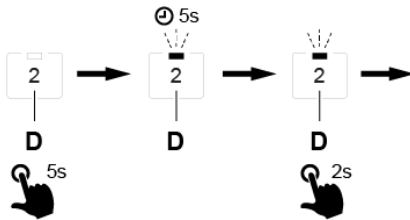

Fig. 12
- To reprogramme the operating mode to mode 2, press and hold down button D for five seconds. See Fig. 12. Release the button when the LED starts flashing.